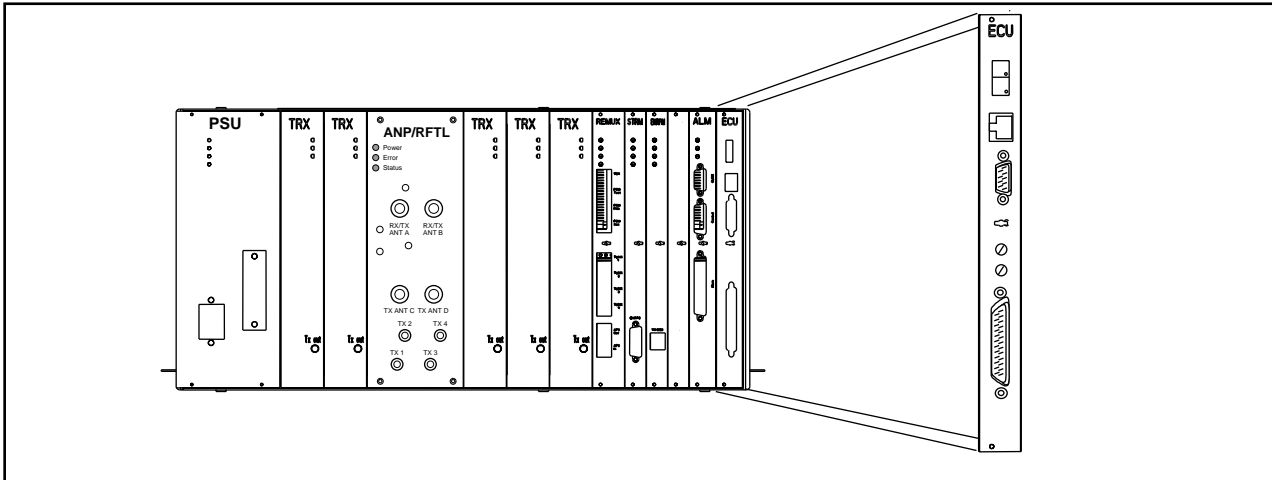

Figure 5-18. Environmental Control Unit (ECU)
6. Make a note of the cables connected to the ECU unit. Refer to Figure 5-18 on page 5-38).